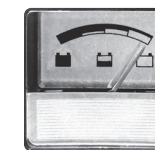
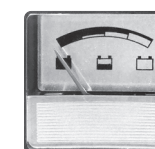

Fig 1
Fig 2
5. Plug the Charger in using a fused AC mains plug socket. When a battery is first connected, the Amp Meter will indicate that it is charging (needle points to the right, Fig 1), as the battery becomes charged the charging rate will drop/discharge. When the charging level is constant (needle points to the left, Fig 2), the battery is fully charged to its optimum level.